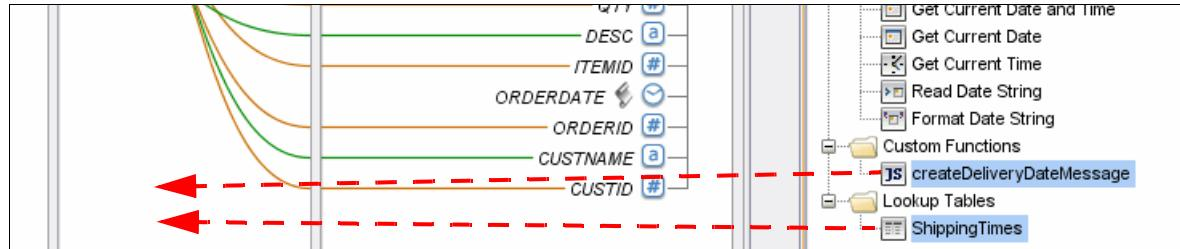

Figure 12-75 Dragging ShippingTimes and createDeliveryMessage
13. From the Functions tab, drag **Custom Functions** → **createDeliveryDateMessage** to the central pane, as shown in Figure 12-75.